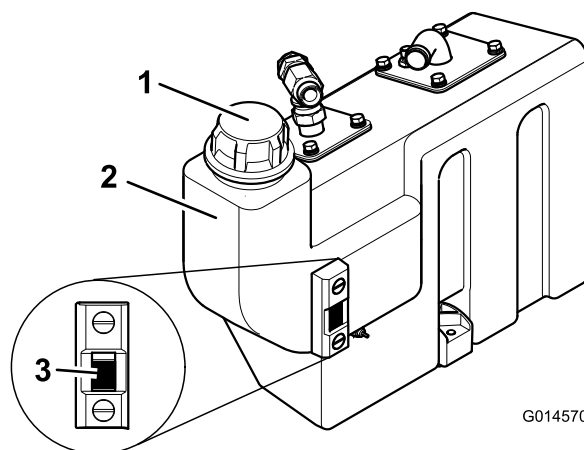

Figure 55
3. If additional hydraulic oil is needed, clean the area around the filler neck and the cap of the hydraulic tank (Figure 55) and remove the cap.